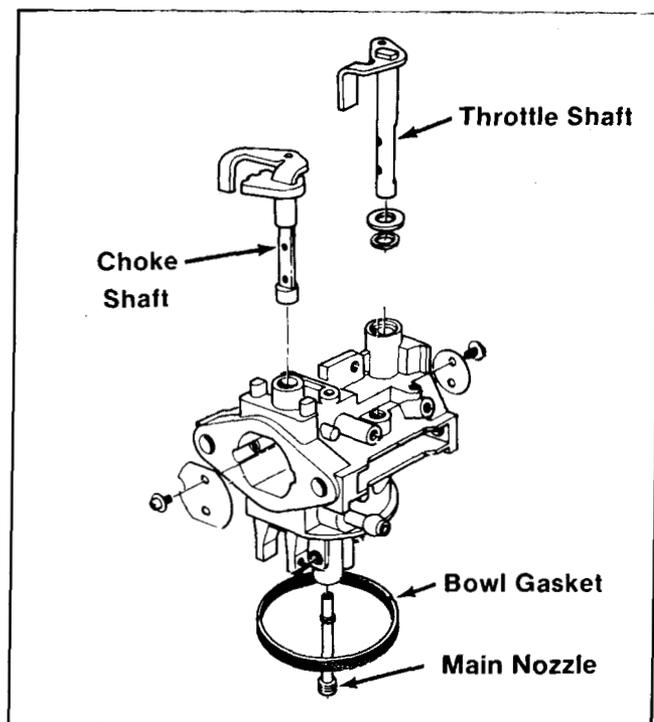

Figure 3-7
- Carburetor disassembly is completed by removing the choke and throttle shafts and the main nozzle. The bowl gasket is also replaceable and should be removed prior to service or cleaning of the carburetor. See Fig. 3-7. To withdraw the choke and throttle shaft, the choke and throttle plates must be removed. Each plate is retained with two screws.